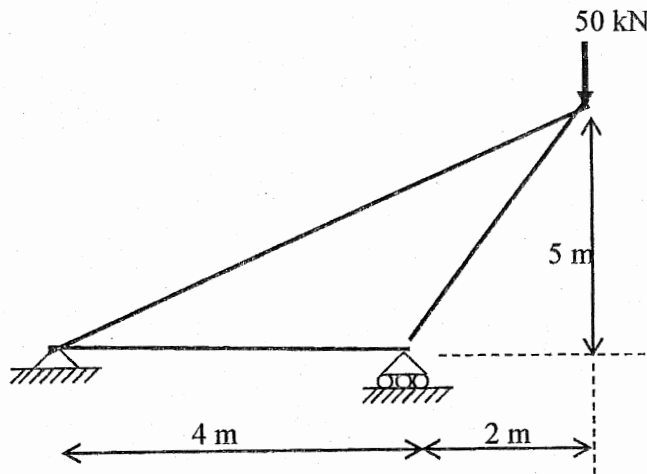

Fig.10
10. Find the vertical deflection at the point of application of the load of a plane steel truss supported as shown in Fig.10. Assume the cross-sectional area of each member is 500 mm^2 .